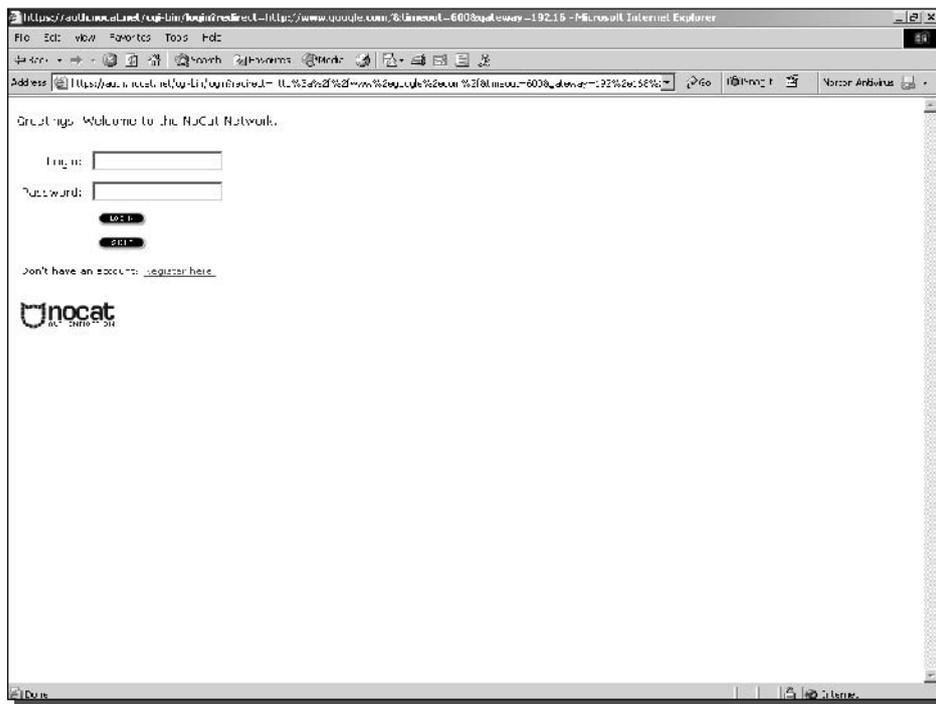

FIGURE 10-6: The NoCat login screen, displayed by the NoCat auth server.
1. Type `www.google.com` in the browser address bar. You should get the NoCat login screen, as shown in Figure 10-6.
2. On the client, type `www.google.com` in the browser address bar. You should get the NoCat login screen, as shown in Figure 10-6 above.
You should get the NoCat splash screen, as shown in Figure 10-6.